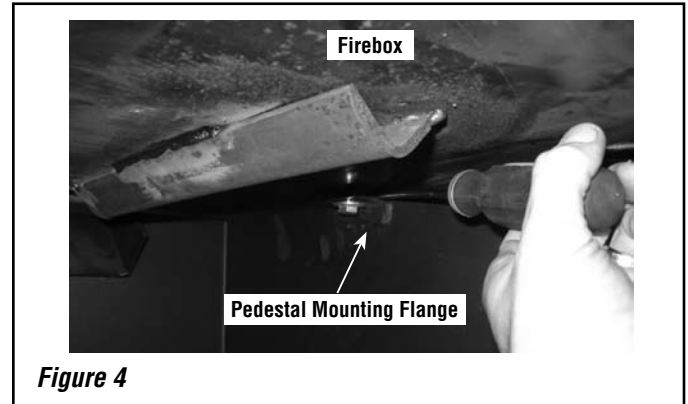

Figure 4
- Step 2.** Insert a large flat head screwdriver or pry bar into the small opening between the pedestal mounting flange and the bottom firebox of the stove. Use the large screwdriver or pry bar to increase the opening size between the firebox bottom and pedestal. **See Figure 4** - This increased opening between the pedestal and bottom firebox will be needed to insert the snap switch bracket mounting tabs.